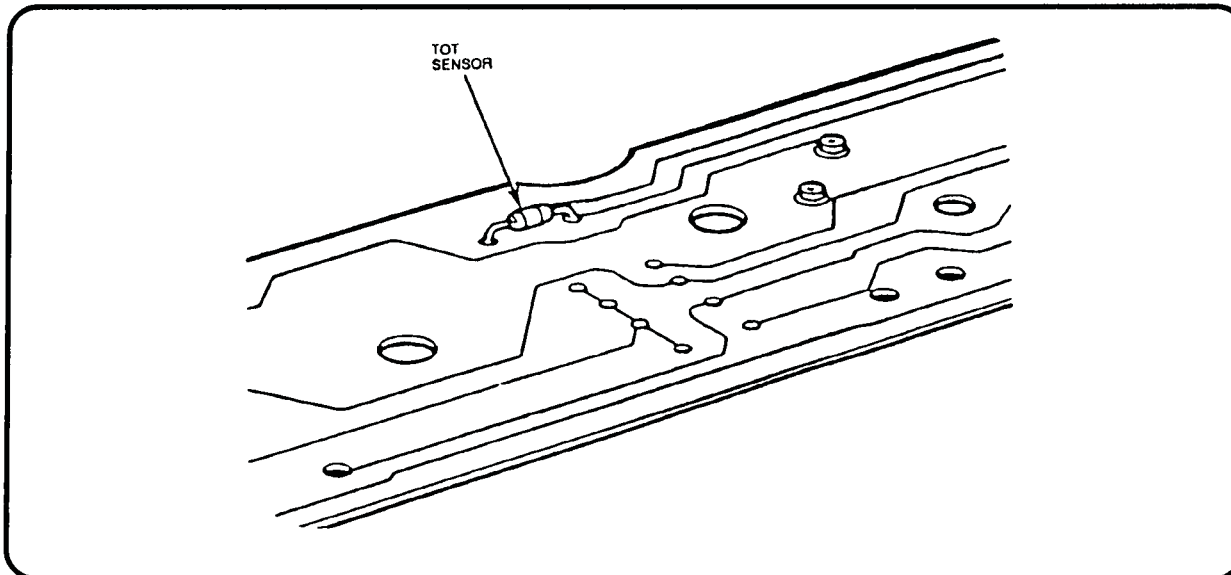

Figure 34
**Description:** The Transmission Operating Temperature sensor is located on the solenoid body in the transmission sump. It is a temperature-sensitive device called a thermistor. It sends a voltage signal to the processor assembly. The voltage signal varies with the transmission oil temperature. The processor uses this signal to determine whether a cold start shift schedule is necessary. The cold start shift schedule lowers shift speeds to allow for the reduced performance of cold engine operation (Figure 34).